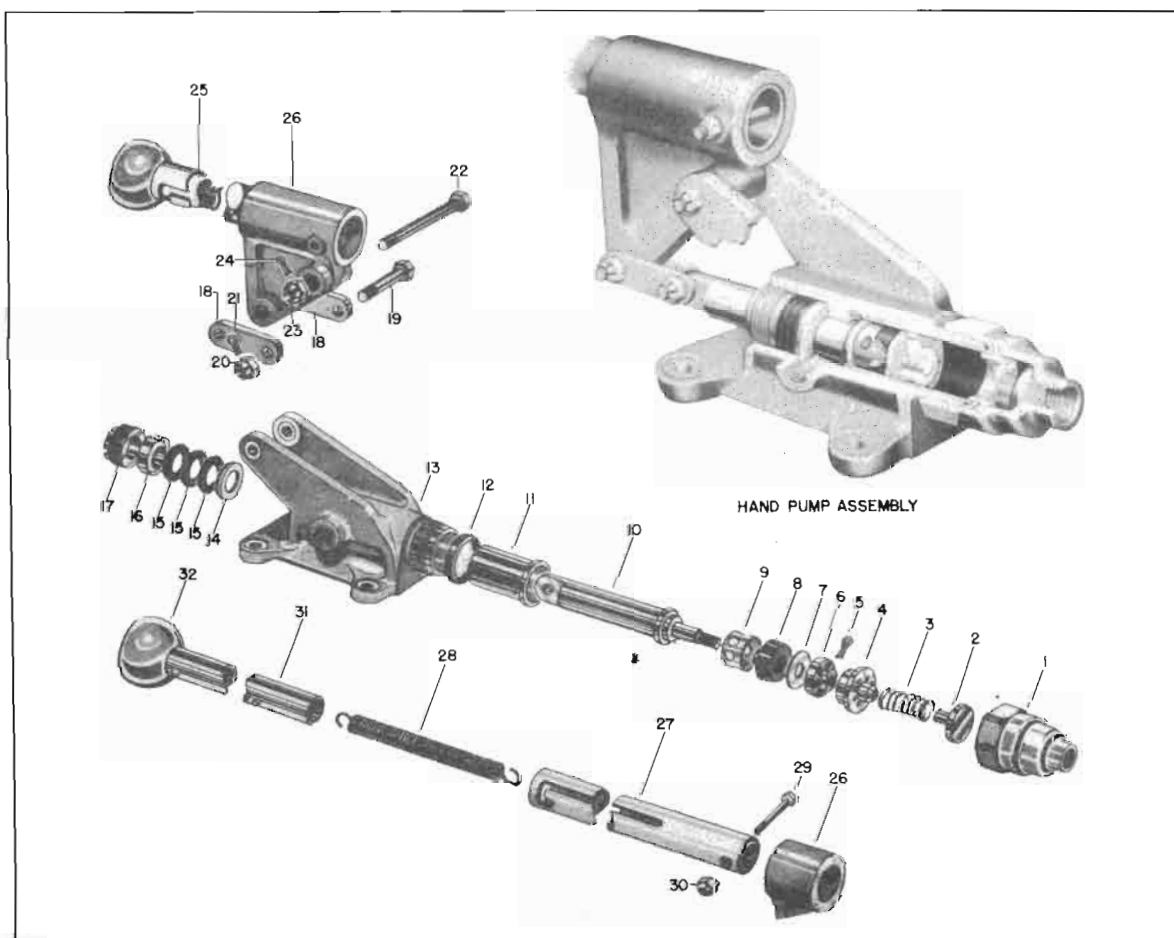

Figure 232 — Hand Pump
(6) EMERGENCY HAND PUMP.—(See figure 232.)